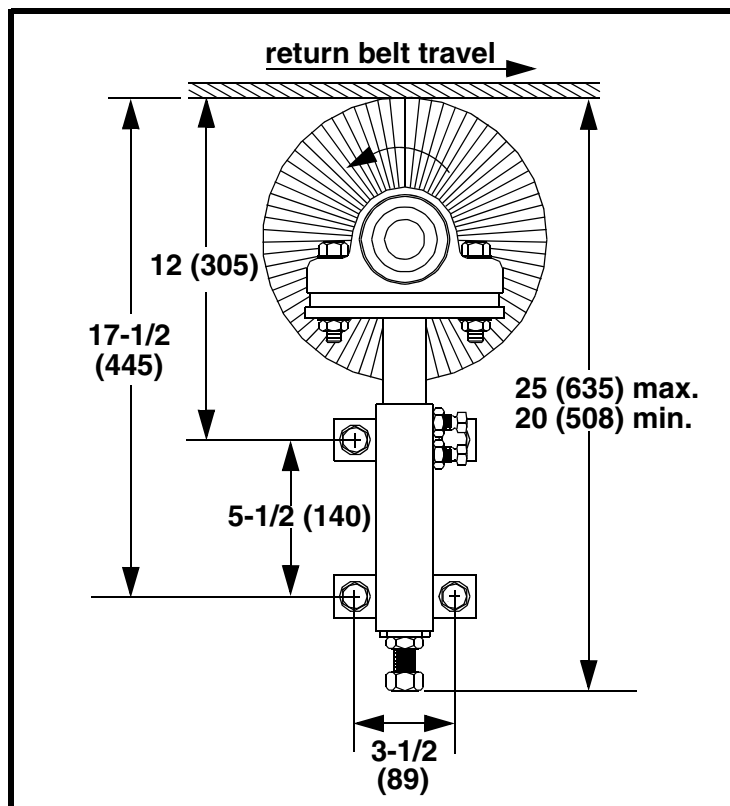

Figure 1. Dimensions for Martin® Standard or Rotary Strip Brush Cleaner
2. Locate Martin® Brush Cleaner mounts on chute walls according to Figure 1.